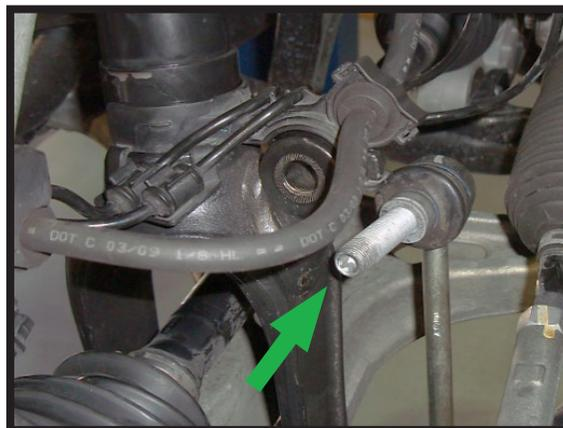

FIGURE 1
4. DISCONNECT THE SWAY BAR LINKAGE. (FIGURE 1)